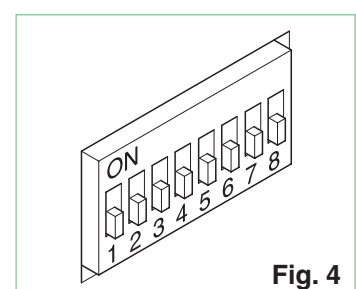

Fig. 4
5. On completion of the procedure, be sure to remove the jumpers between terminals PR and - and between terminals S and -. Reposition all the DIP switches in the OFF (0) position as shown in the Figures 4.